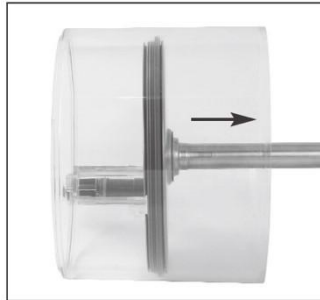

Figure 6
5) Remove the base from the bowl by removing the rubbering (see Figure 5) and tapping the base out in the direction shown (see Figure 6).